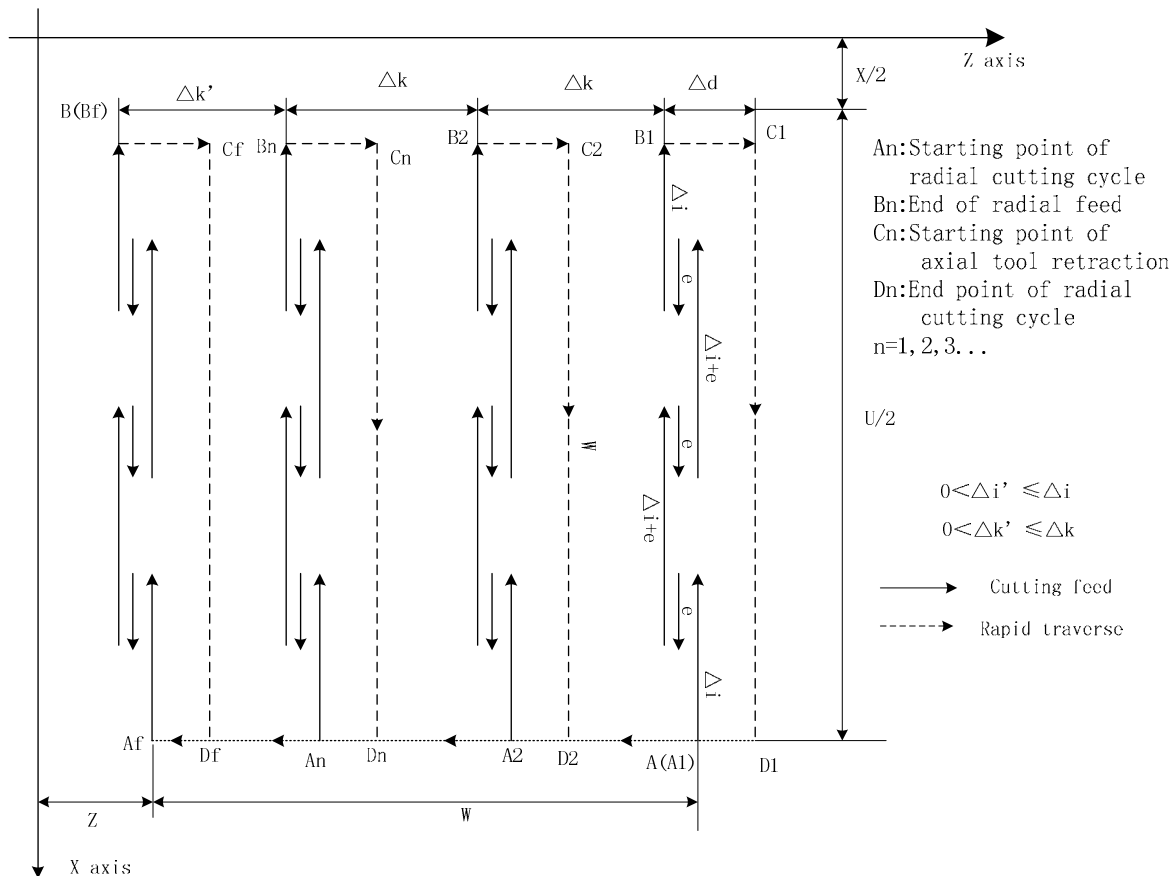
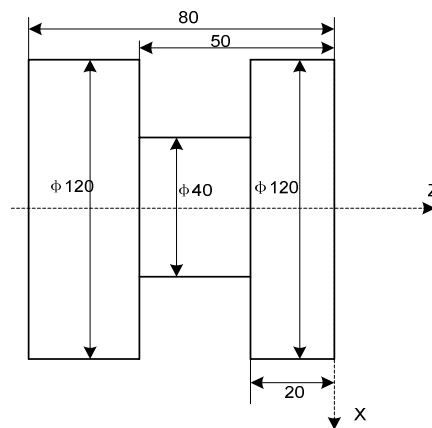

Fig. 3-36 G75 path
Fig. 3-37 G75 cutting
**Execution process:** (Fig. 3-36)
- ① Radial (X) cutting feed  $\Delta i$  from the starting point of radial cutting cycle, feed in X negative direction when the coordinates of cutting end point is less than that of starting point in X direction, otherwise, feed in X positive direction;
- ② Radial(X) rapid tool retraction  $e$  and its direction is opposite to the feed direction of ①;
- ③ X executes the cutting feed  $(\Delta k + e)$  again, the end point of cutting feed is still in it between starting point  $A_n$  of radial cutting cycle and end point of radial tool infeed, X executes the cutting feed  $(\Delta i + e)$  again and executes ②; after X cutting feed  $(\Delta i + e)$  is executed again, the end point of X cutting feed is on  $B_n$  or is not on it between  $A_n$  and  $B_n$  cutting feed to  $B_n$  and then execute ④;
- ④ Axial(Z) rapid tool retraction  $\Delta d$  to  $C_n$ , when Z coordinate of  $B_f$  (cutting end point) is less than that of A (starting point), retract tool in Z positive, otherwise, retract tool in Z negative direction;
- ⑤ Radial (Z) rapid retract tool to  $D_n$ , No. n radial cutting cycle is completed. The current radial cutting cycle is not the last one, execute ⑥; if it is the previous one before the last radial cutting cycle, execute ⑦;
- ⑥ Axial(X) rapid tool infeed, and its direction is opposite to ④ retract tool. If the end point of tool infeed is still on it between A and  $A_f$  (starting point of last radial cutting cycle) after Z tool infeed  $(\Delta d + \Delta k)$ , i.e.  $D_n \rightarrow A_{n+1}$  and then execute ① (start the next radial cutting cycle); if the end point of tool infeed is not on it between  $D_n$  and  $A_f$  after Z tool infeed  $(\Delta d + \Delta k)$ , rapidly traverse to  $A_f$  and execute ① to start the first radial cutting cycle;
- ⑦ Z rapidly traverses to A, and G75 is completed.
- The cycle movement is executed by X(W) and P( $\Delta$ i) blocks of G75, and the movement is not executed if only "G75 R(e);" block is executed;
- $\Delta$ d and e are specified by the same address R and whether there are X(U) and P( $\Delta$ i) words or not in blocks to distinguish them;
**Example:** Fig.3-37